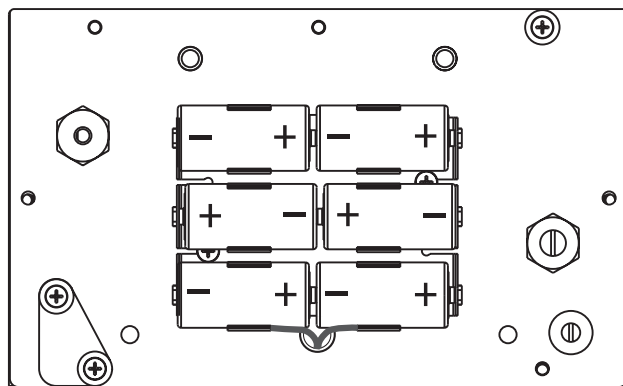

Figure 1. Battery Installation
2. Install six alkaline C-cell batteries as shown in Figure 1.